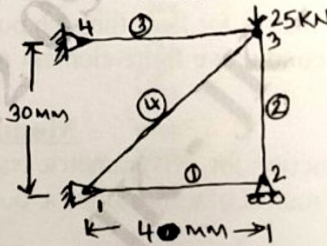

Fig Q4
- 4 A four bar truss element as shown in Fig Q4, determine nodal displacement and stress in each element. Area = 100 mm^2 $E = 2 \times 10^5 \text{ N/mm}^2$ (20 Marks)